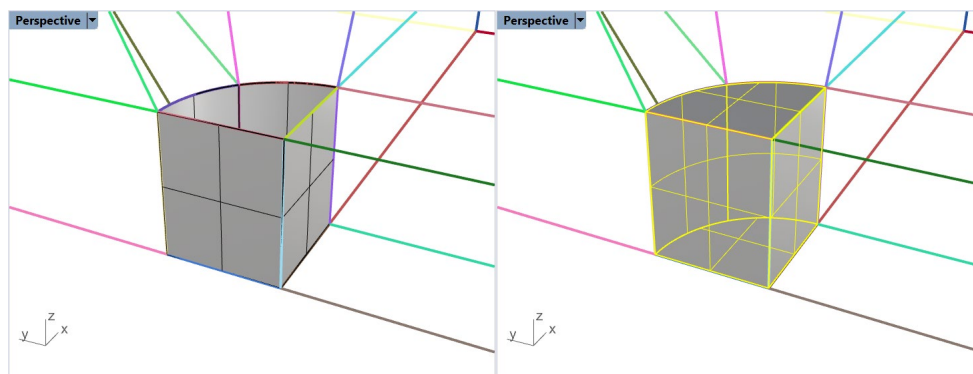

Figure 46: Building the last solid block in the model.
18. For the remaining central block, build only vertical surfaces using the **_Loft** command and join all four of them with the **_Join** command (Figure 46, left).
19. Select a single polysurface as in Figure 46, left and cap the holes with the **_Cap** command (Figure 46, right). The resulting solid is the last block needed before meshing.